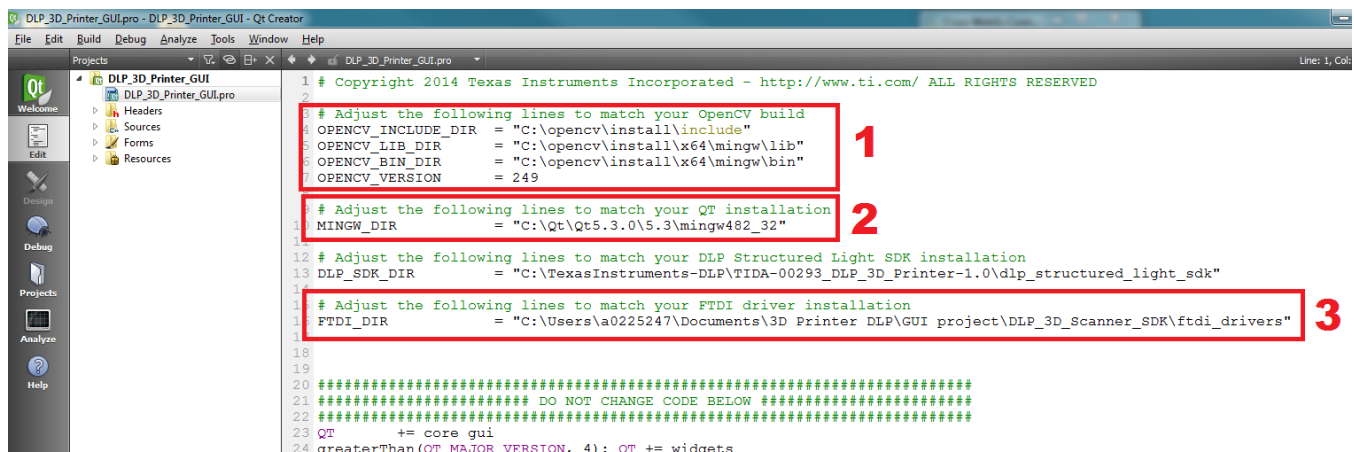

Figure 4-37. Editing The Include Paths For OpenCV and FTDI Libraries
- In the top section of the project file, edit the OpenCV include path, the MinGW binary path, and the FTDI driver path to the proper directories. The paths that require setting are highlighted in Figure 4-37 , blocks 1, 2 and 3 respectively. No settings should be changed below the block titled **Do not change code below**.